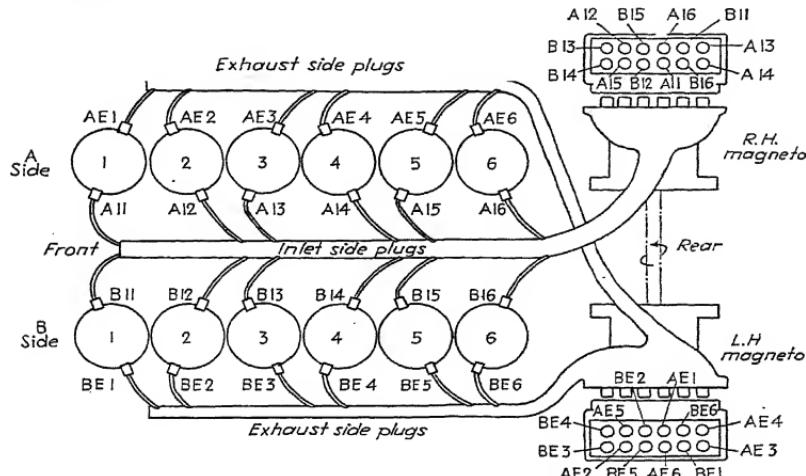

FIG. 45.—Ignition wiring from both magnetos.
*Ignition Wiring.*—As can be seen in Fig. 45, the right-hand magneto carries 12 high-tension terminals leading to the central conduit and the spark plugs on the inlet side of the cylinders. The left-hand magneto has similar terminals from the plugs on the exhaust side. Should it be necessary to remove the exhaust fittings the following method is recommended: